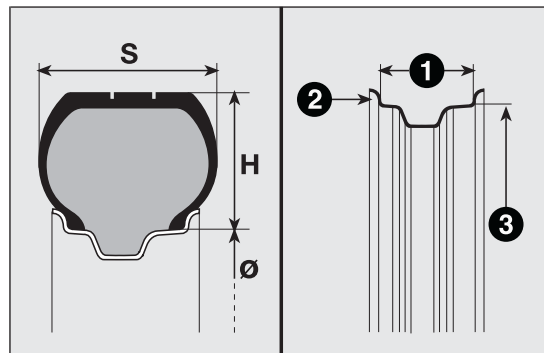

fig. 149
### Example fig. 149: 175/65 R 14 82H
**CORRECT READING OF THE WHEEL RIM****Example: 5.00 B x 14 H2** fig. 149**5,00** rim width in inches 1.**B** profile of the flange (side projection where the tyre bead rests) 2.**14** fitting diameter, expressed in inches (corresponds to the diameter of the tyre that should be fitted)